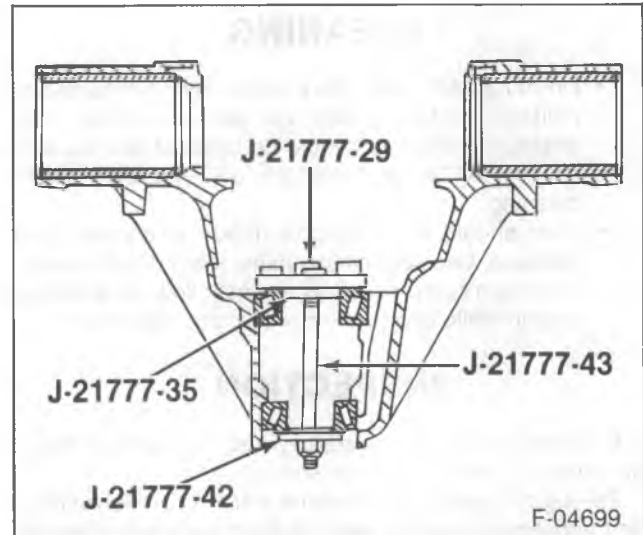

Figure 11—Gage Plate Components
3. Place the bearings (5) and (39) into the pinion bearing cups.
4. Install J 21777-35, J 21777-42, J 21777-29, and J 21777-43 to the pinion bore (figure 11).